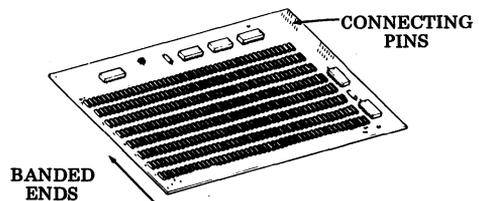

Fig. 20—410734 Diode Matrix Circuit Card
4.04 To option the 410734 diode matrix circuit card (Fig. 20), the card must be separated from the 410733 controller card assembly.
- (c) Unplug connector from 410734 diode matrix card (Fig. 20).